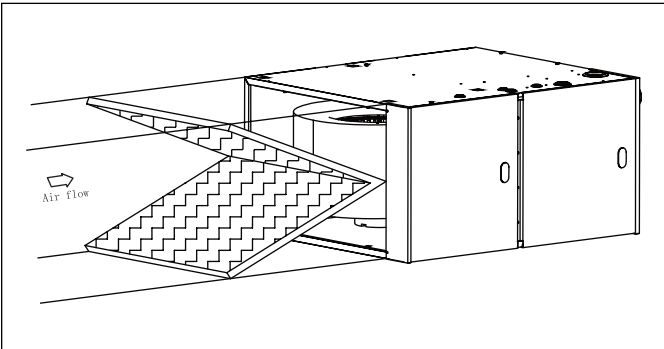

Figure 20
► If disposable filters are used, air passage through filters should be increased to twice the size of original air opening by using a transition duct or using two filters in V shape (see Fig. 20) in normal duct size.